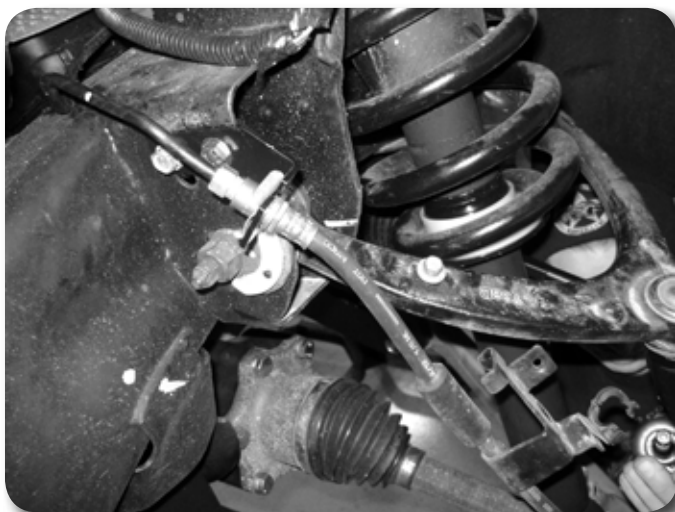

Figure 37
65. Attach the provided brake line bracket to the upper control arm mount using the original mounting hole/hardware and the newly drilled hole with the provided 5/16" x 3/4" bolt, nut, and washers. **Figure 37** Leave hardware loose.